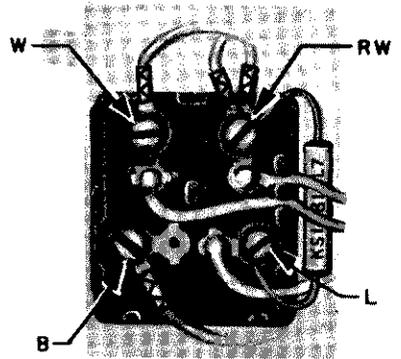

Fig. 7 - 500A, B or 501A, B Telephone Set, KS-13814, List 7 Capacitor Installed
4.04 The KS-13814, List 7 capacitor is installed in the 500A, B and 501A, B telephone sets as shown in Fig. 7. It is connected across the L and RW terminals of the 311A equalizers. Place the capacitor against the equalizer as shown. Cover the exposed portions of the leads with tubular insulation.